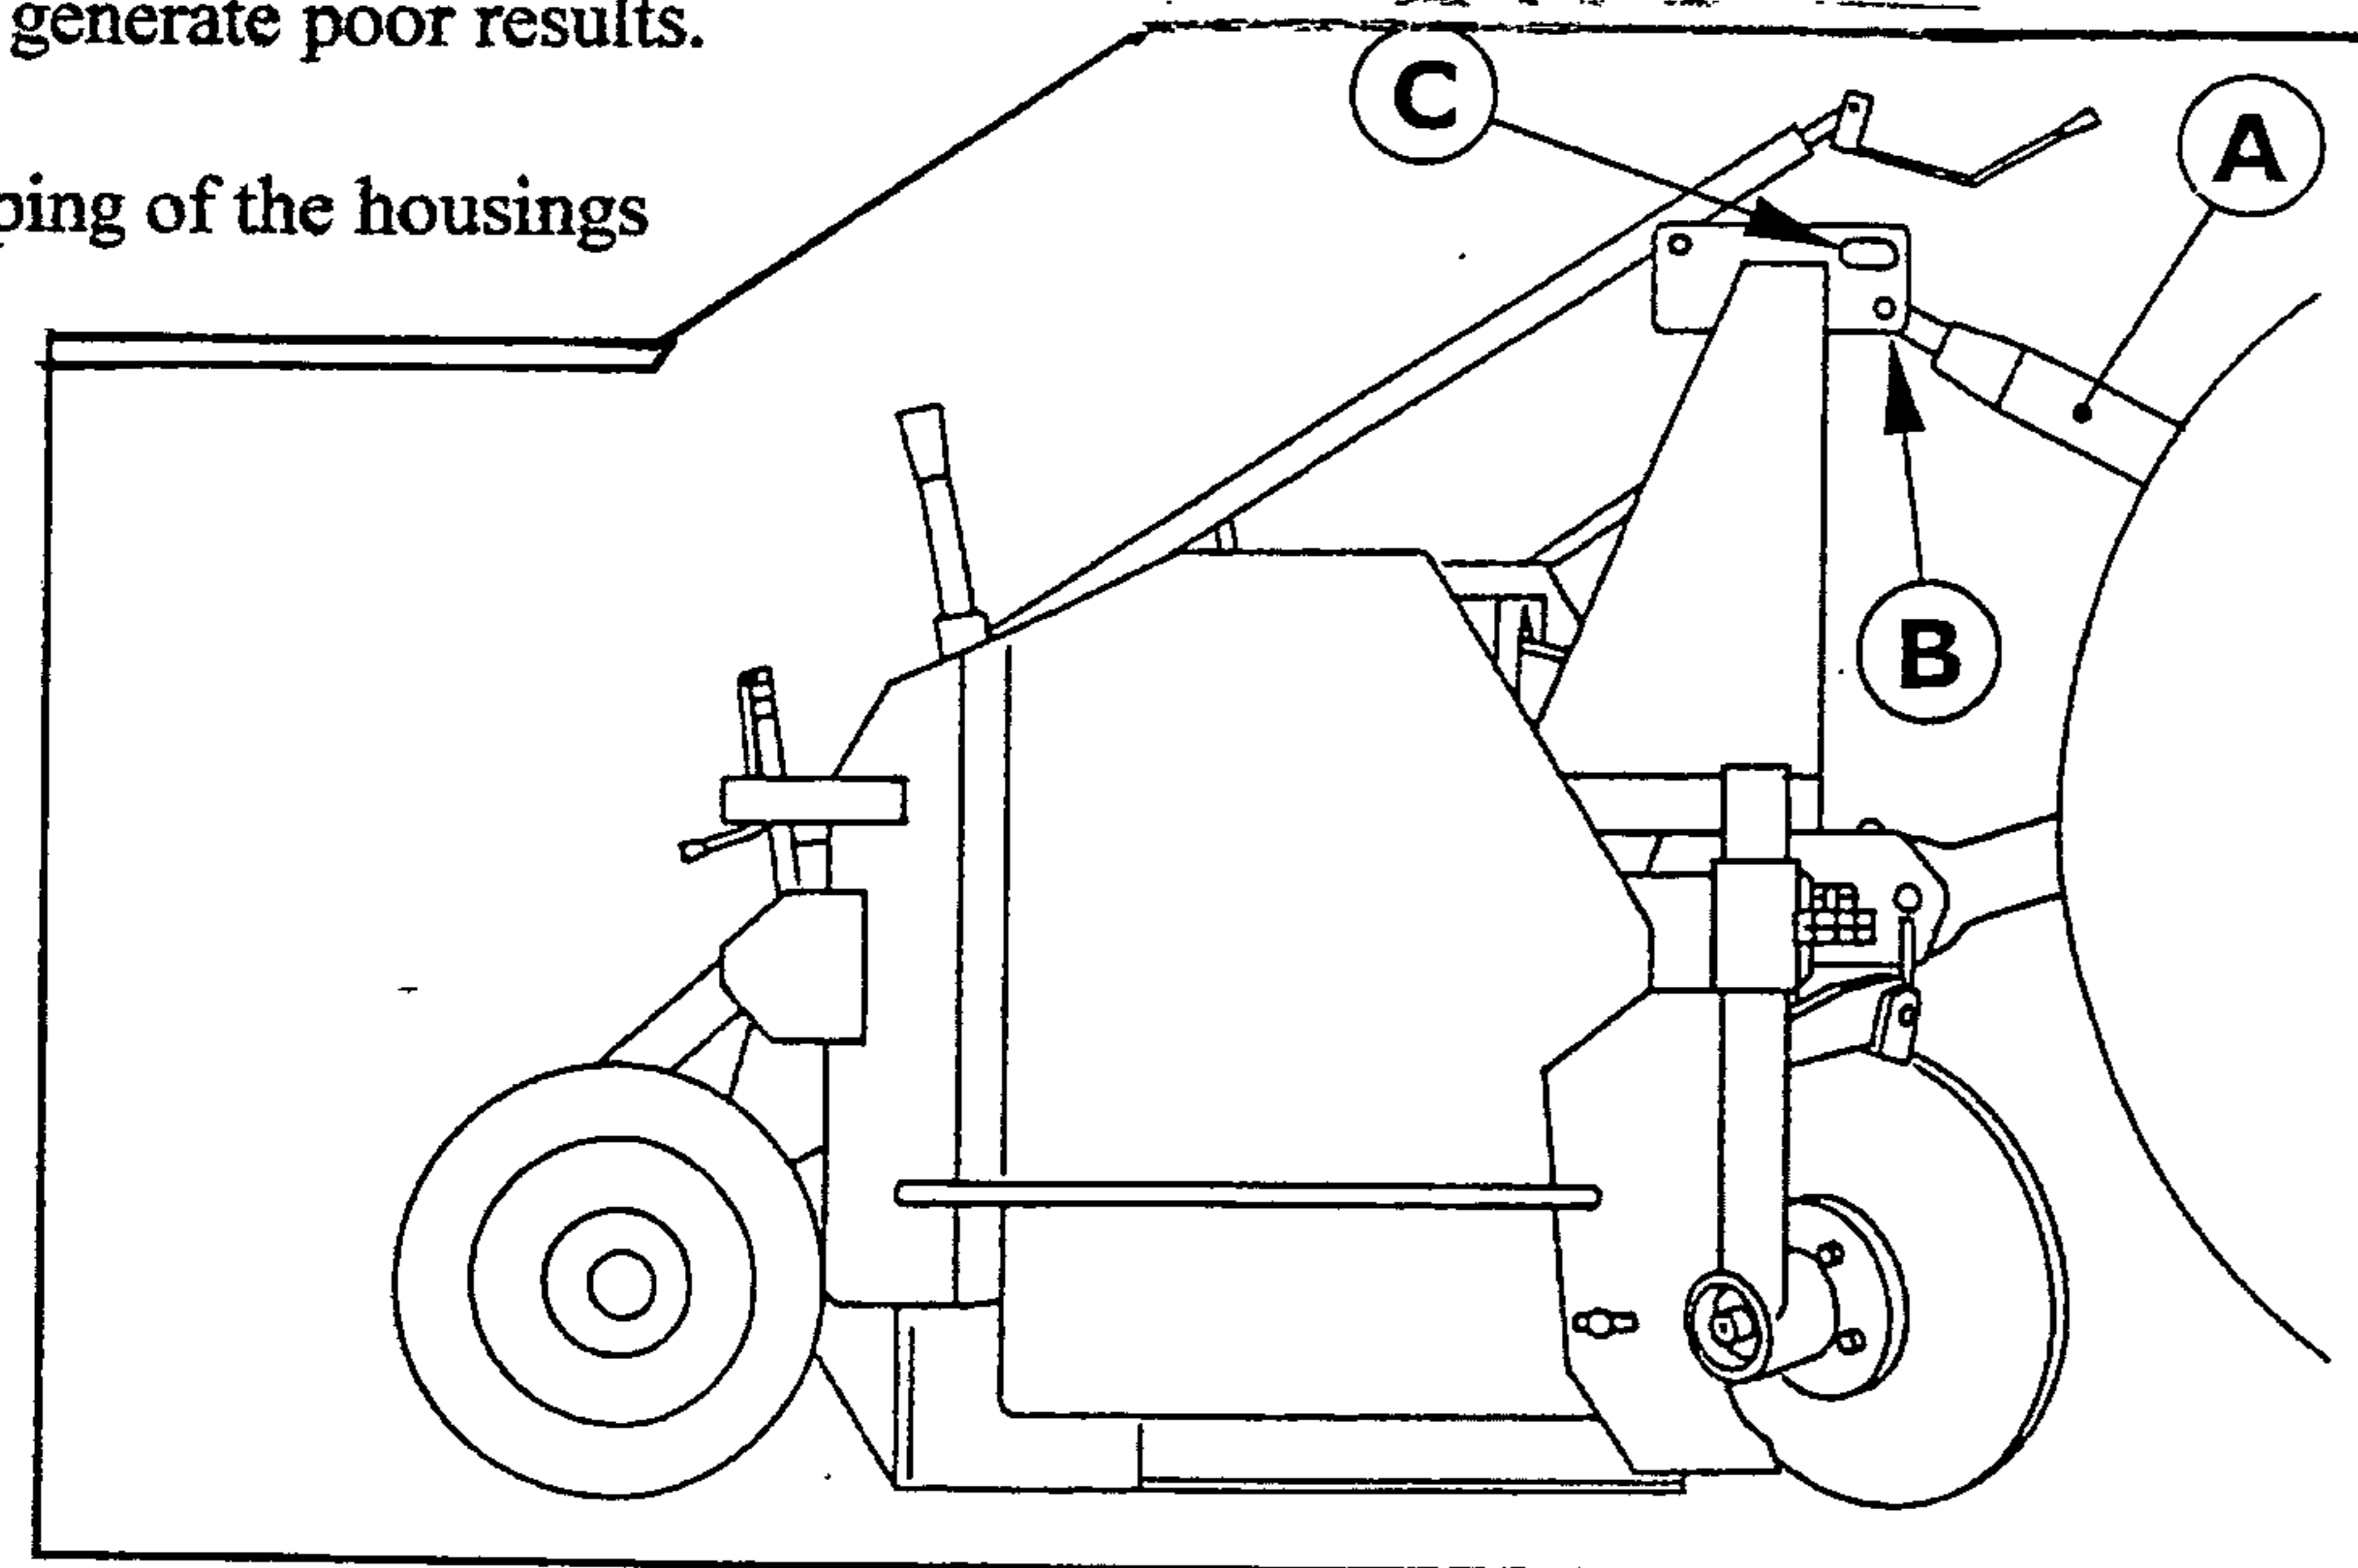

Fig. 3
TRANSPORT (Fig. 3)
For transport on public roads, hook the upper arm (A - Fig. 3) of the tractor three-point link into the hole (B).